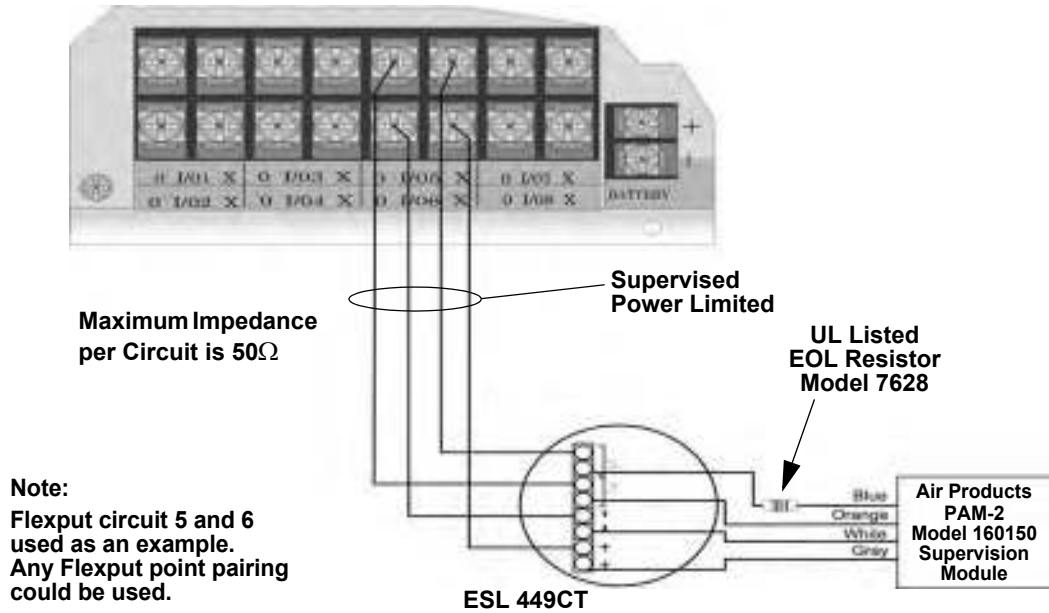
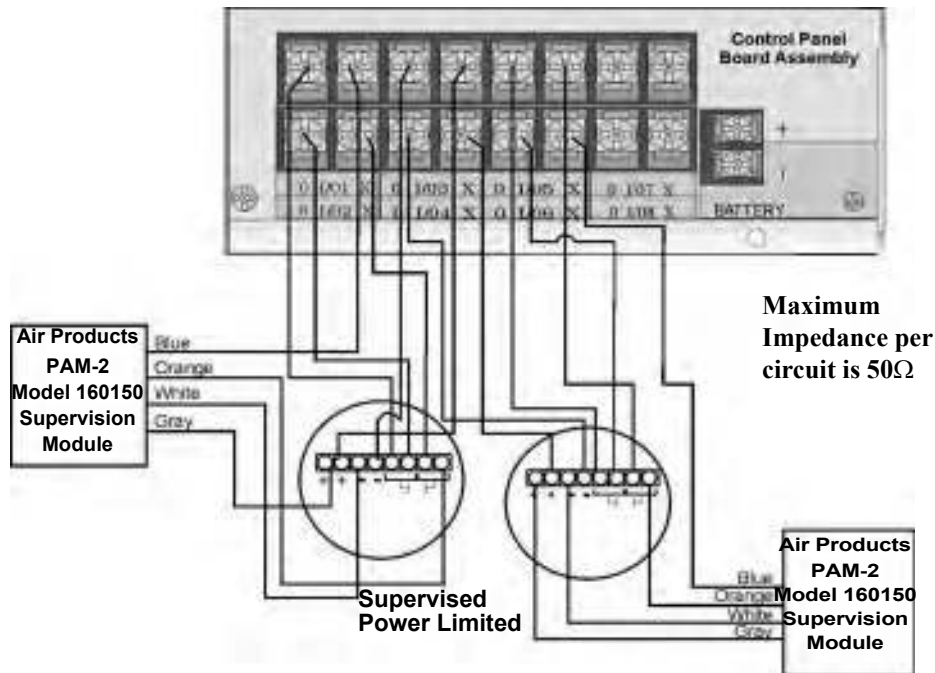

Figure 4-38 Class B 4-Wire Smoke Detector Connections
Figure 4-39 Class A 4-Wire Smoke Detector Connections
Any compatible UL listed four-wire smoke detector can be used with the control panel (see Appendix A for list of compatible smoke detectors). Figure 4-38 and Figure 4-39 illustrate how to connect a UL listed four-wire detector to the control panel.
Figure 4-38 illustrates how to install a 4-wire Class B smoke detector.
2. Each Class B loop input is paired with a unique power source as shown in Figure 4-38.
Note: In programming any point that uses multiple Flexput circuits, the lowest Flexput circuit number is used to refer to the circuit pair. For example, Figure 4-38 uses both Flexput circuit 5 and 6, so in programming it would be referred to as point 5.
Figure 4-39 illustrates how to install 4-wire Class A detectors.
- Smoke power is supplied to each Class A loop as shown in Figure 4-39.
Note: In programming any point that uses multiple Flexput circuits are always referred to as the lowest Flexput circuit number used. For example, Figure 4-39 uses Flexput circuits 1, 2, 3 together and 4, 5, 6 together. In programming (1, 2, 3) would be referred to as point 1, and (4, 5, 6) would be referred to as point 4.